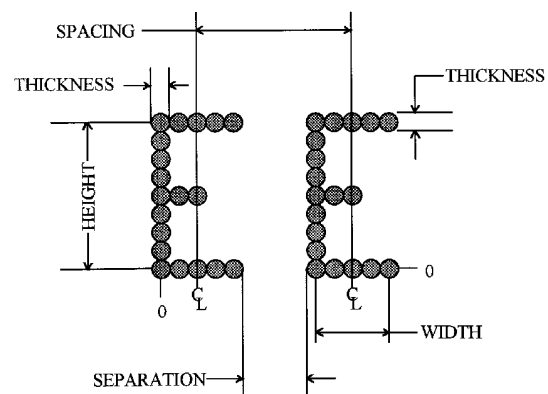

Figure 1
4.3 *character separation* — The horizontal distance between the adjacent boundaries of any characters (see Figure 1).
4.4 *character spacing* — The horizontal distance between the character spacing reference lines of the adjacent characters (see Figure 1).
5.1 Dot matrix method shall be used to write characters. The minimum matrix shall be 5 dots horizontal and 9 dots vertical as shown in Figure 1. More dots may be used.
NOTE 1: The 5×9 dot matrix shown in Figure 1 is the minimum number of dots allowed. More dots may be used, up to and including a solid line. A solid line is not recommended, since it may increase wafer breakage.
5.2 *Character Dimensions and Spacing* — See Table 1, Table 2, and Figure 1.